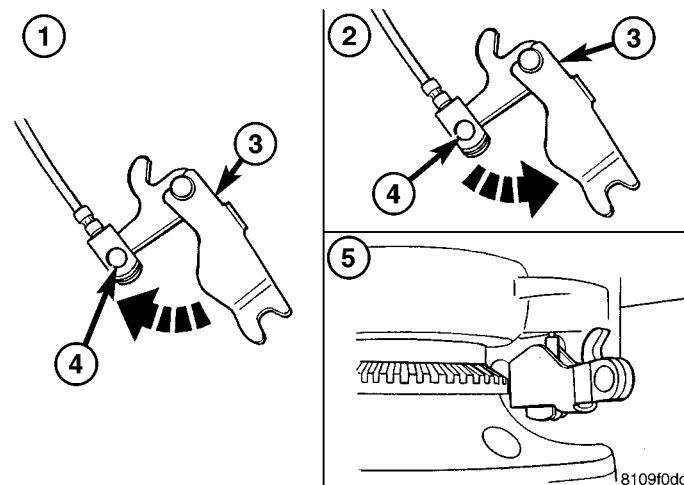

Fig. 28 CONTROL CABLE LOCK
- (1) Open the brake control cable lock (Fig. 28).
- (2) Press out the safety bolt and remove the brake control cable lock (Fig. 28).
- (1) Push the brake control cable lock onto the brake cable (Fig. 28).
- (2) Insert the safety bolt and snap shut the brake control cable lock. **Observe the installation position of the brake control cable lock (Fig. 28).**